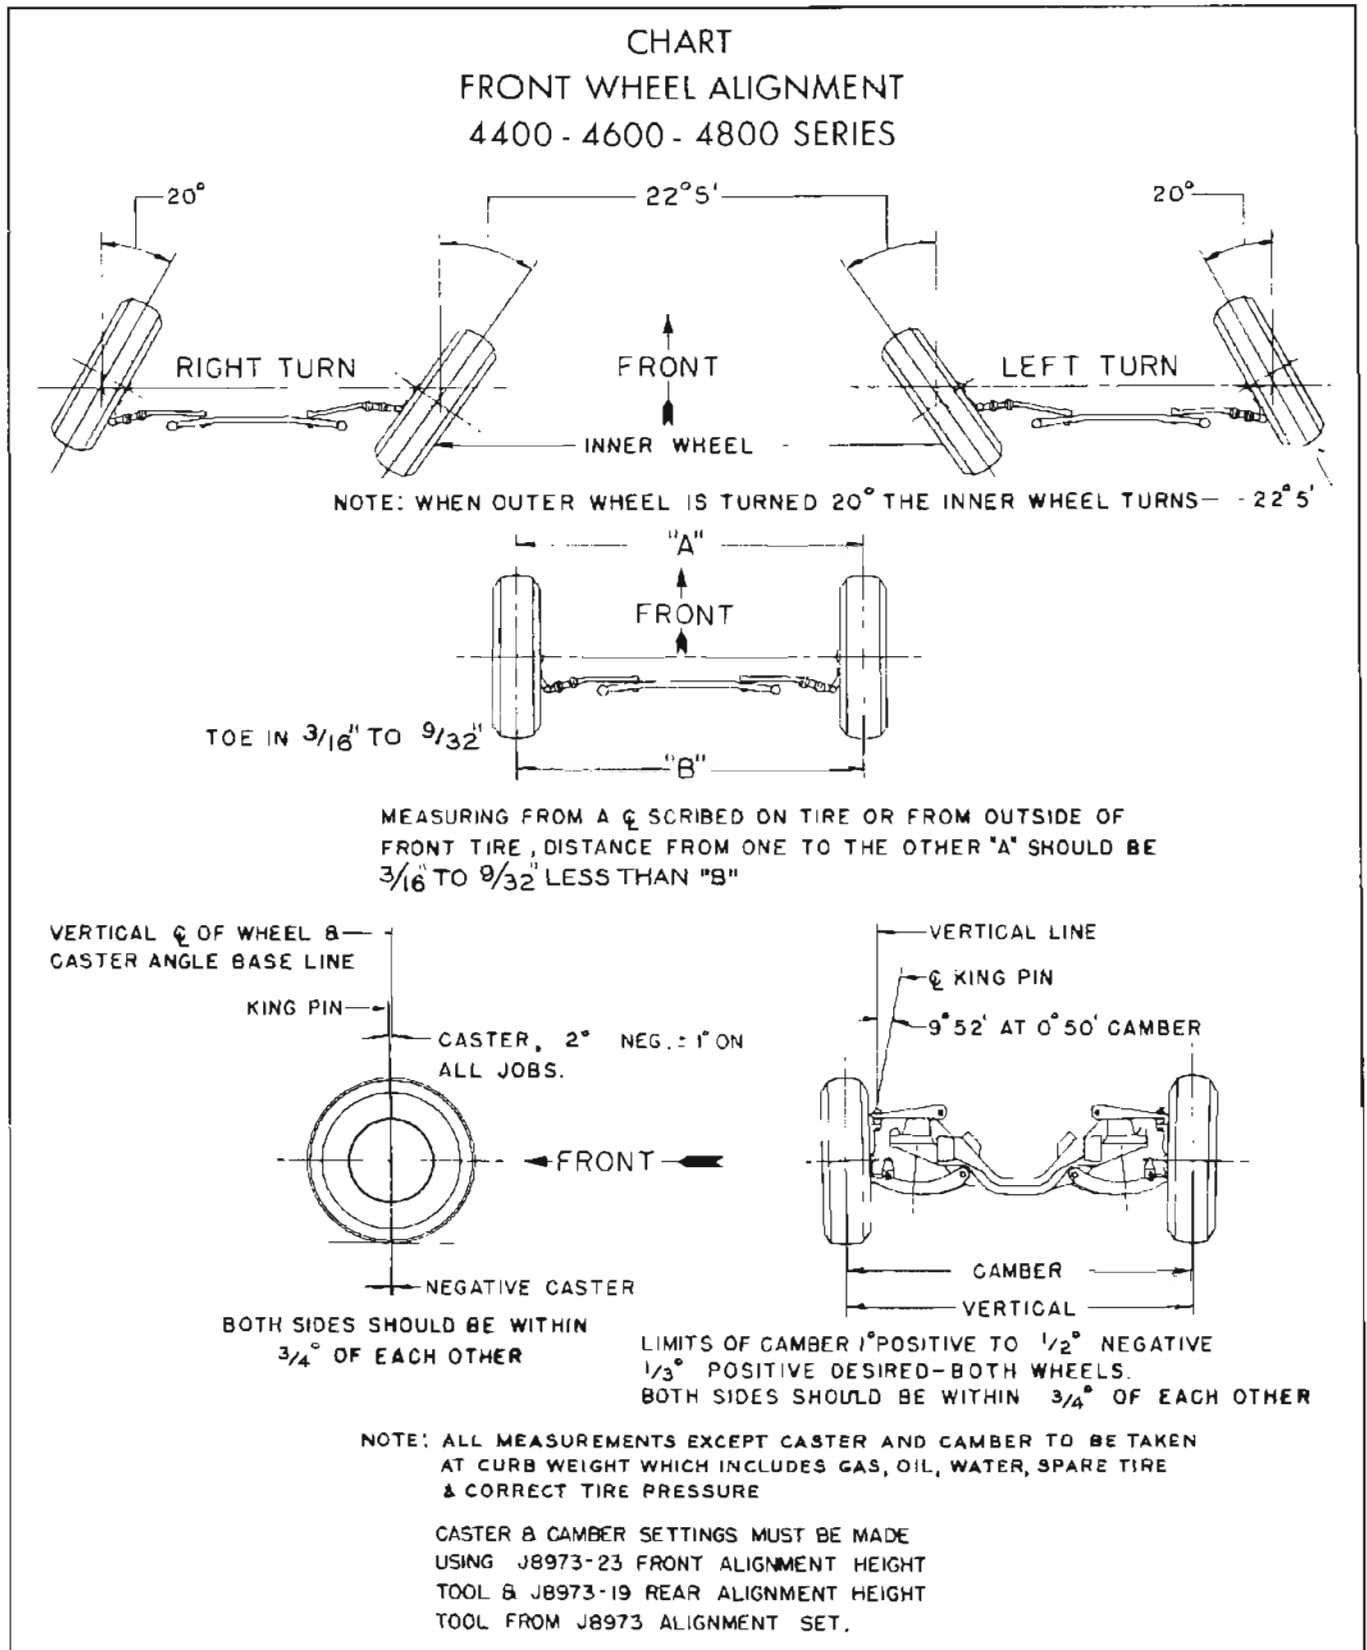

Figure 7-34—Alignment Specifications Chart
Caster and camber should be within the limits shown in Figure 7-34. Note that the caster angles at both front wheels need not be exactly the same but must be within  $3/4$  degrees of each other. Likewise, the camber angles on both sides must be within  $3/4$  degrees of each other. If caster and camber are not within the specified limits, adjust as described below.
3. Using a suitable toe-in gauge, measure the distance between outside walls of tires at the front at approximately 10" from the floor. See Figure 7-34 dimension "A". Mark points where gauge contacts tires. NOTE: An accurate check also can be made by raising and rotating front wheels to scribe a fine line near the center of each tire, then, with tires on the floor and front end at running height, measure between scribed lines with a suitable trammel.
4. Roll the car forward until measuring points on tires are approximately 10" from the floor at the rear, and measure the distance between points used in Step 3 above. The measurement at the front (dimension "A") should be 7/32" to 5/16" less than the measurement at the rear dimension "B"). See Figure 7-34.
1. With the front wheels resting on full floating turntables, turn wheels to the right until the outside (left) wheel is set at 20 degrees. The inside (right) wheel should then set at angle specified in Figure 7-34.
2. Repeat this test by turning front wheels to the left until the outside (right) wheel sets at 20 degrees; the inside (left) wheel should then set at angle specified in Figure 7-34.
With camber known to be within specified limits, theoretical king pin inclination should check within specified limits given in Figure 7-34.